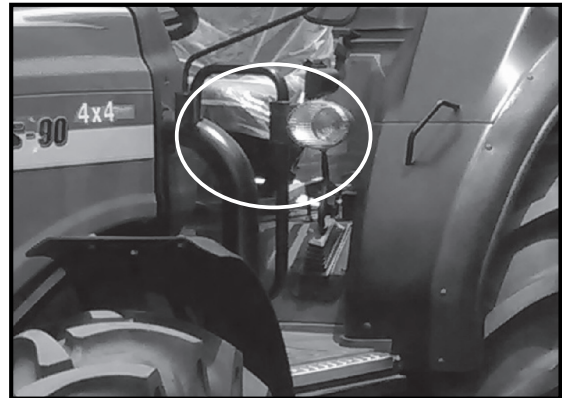

Fig. 3-18
3.17 Front Parking Light (Fig. 3-18)